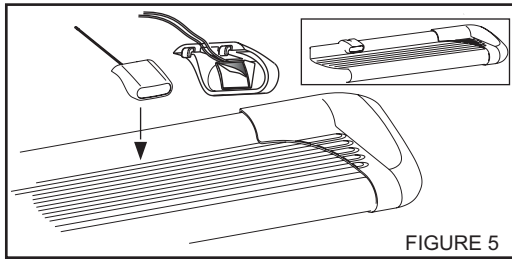

FIGURE 5
STEP 8. For Aluminum Running boards. Set lights (if purchased) in appropriate location. Attach to running board as shown. Run wires as shown. **SEE FIGURE 5.**